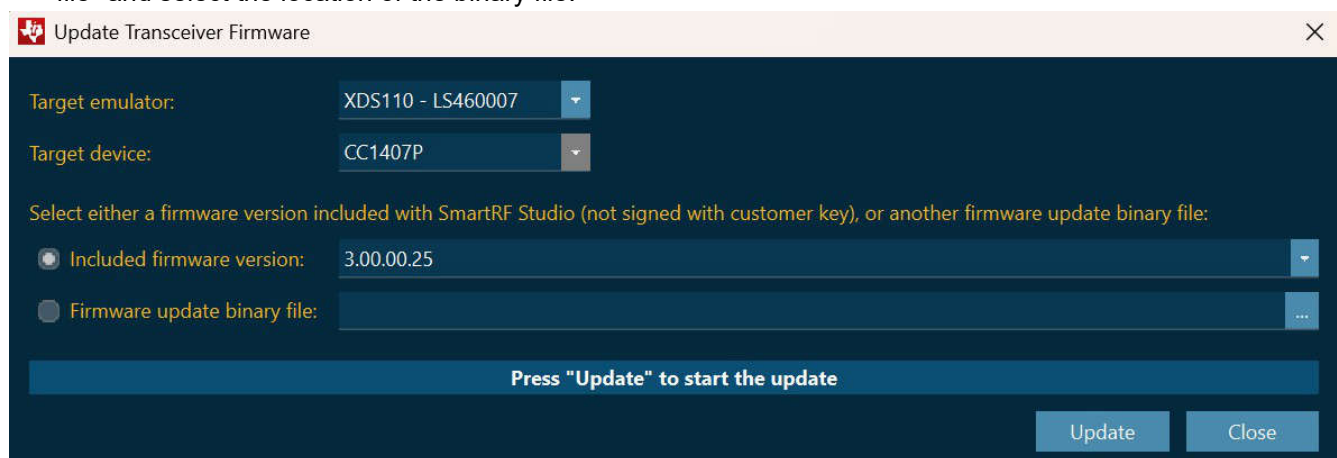

Figure 3-6. Included Firmware Version
5. SmartRF Studio for CC1407P includes a firmware version and is shown under "Included firmware version" (Figure 3-6). If the CC1407P needs to be updated with a different firmware, select "Firmware update binary file" and select the location of the binary file.